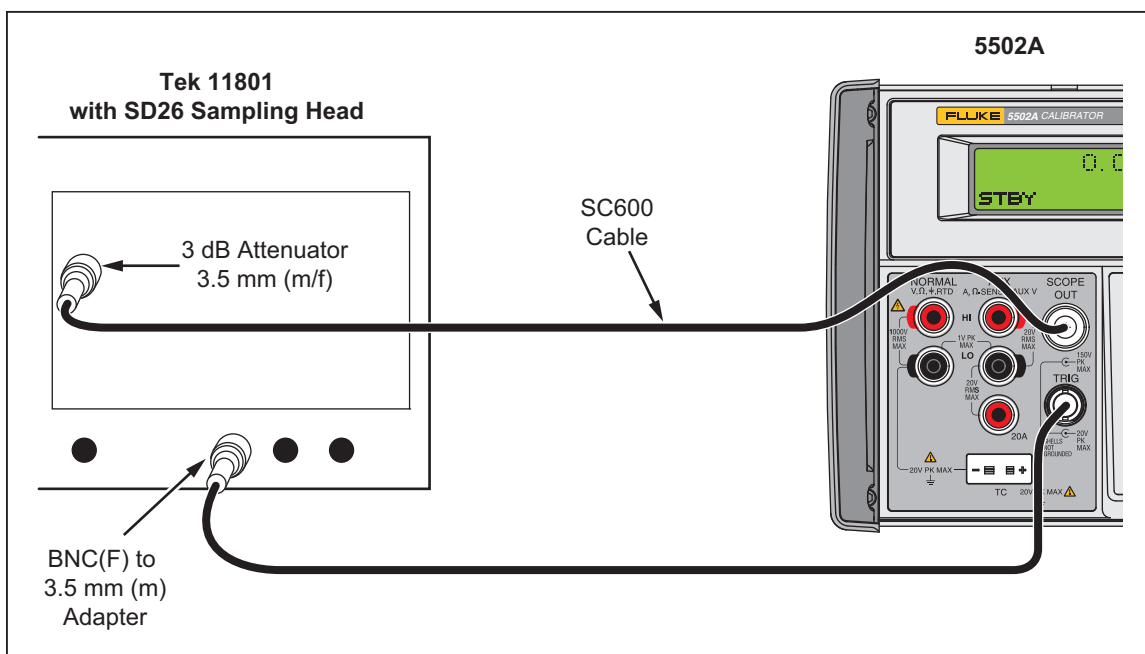

Figure 7-8. Edge Rise Time Verification Setup
2. Use the second BNC cable with the BNC(f) to 3.5 mm(m) adapter attached to connect the TRIG OUT of the Calibrator to the trigger input of the DSO. See Figure 7-8.
3. Connect the Calibrator to the oscilloscope as shown in Figure 7-8.